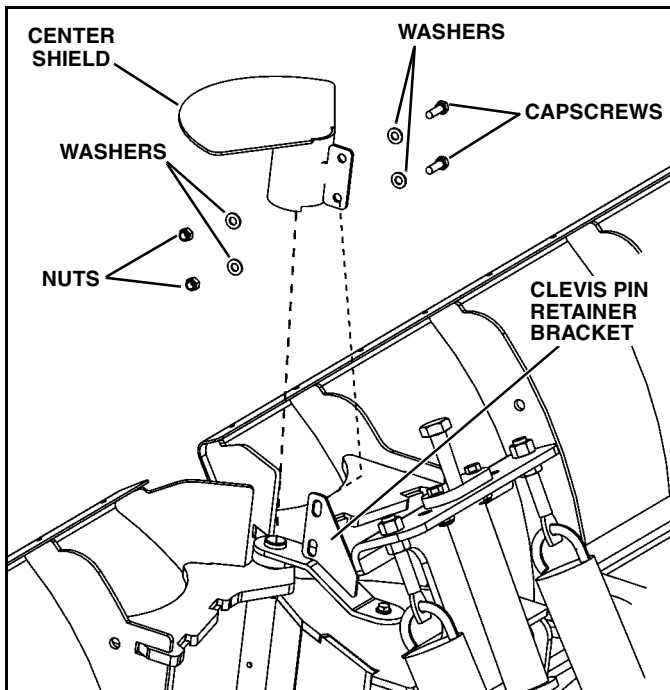

Figure 1-7
6. Install the center shield on the clevis pin retainer bracket, and secure with two 5/16-18 x 1" hex head cap screws (p/n 98009149), four 5/16" flat washers (p/n 98009024) and two 5/16" lock nuts (p/n 98009150). (See Figure 1-7).